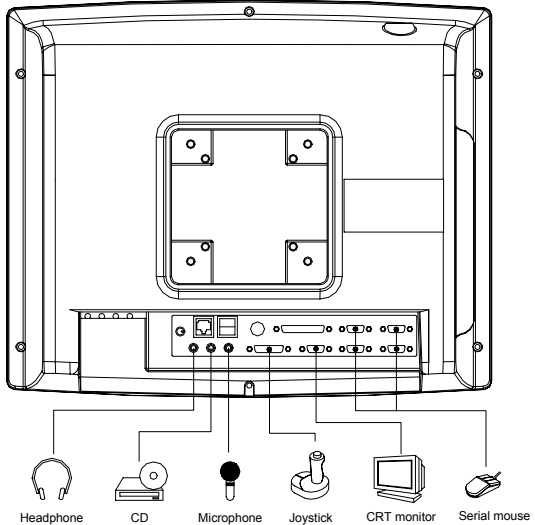

Figure 3.5: I/O interface (excluding COM ports)
2. Attach the interface cable of the serial device to the POC-153's serial port. (See Fig. 3-5.) If necessary, attach the other end of the interface cable to your serial device. Fasten any retaining screws.
2. Connect the external monitor to the system. (See Fig. 3-5.)
2. Connect the external joystick or game device to the system. (See Fig. 3-5.)
The audio interface includes three jacks: microphone in, line out and line in. (See Fig. 3-5.) Their functions are:
1. Connect the audio device to the system. (See Fig. 3-5.)